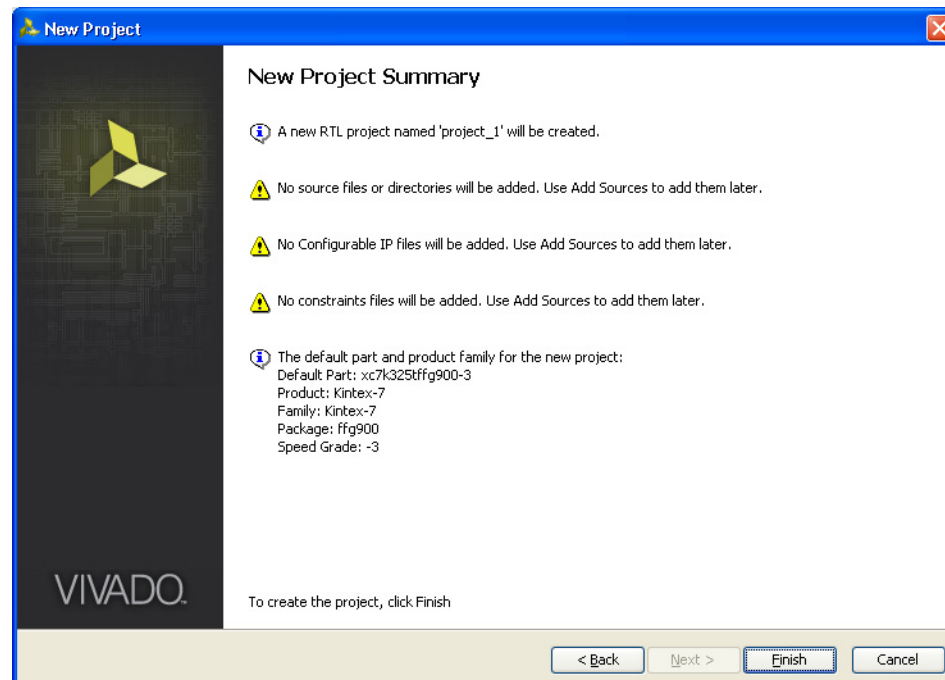

Figure 3-11: New Project Summary
- Click **Next** to open the New Project Summary page (Figure 3-11). This includes the summary of selected project details.